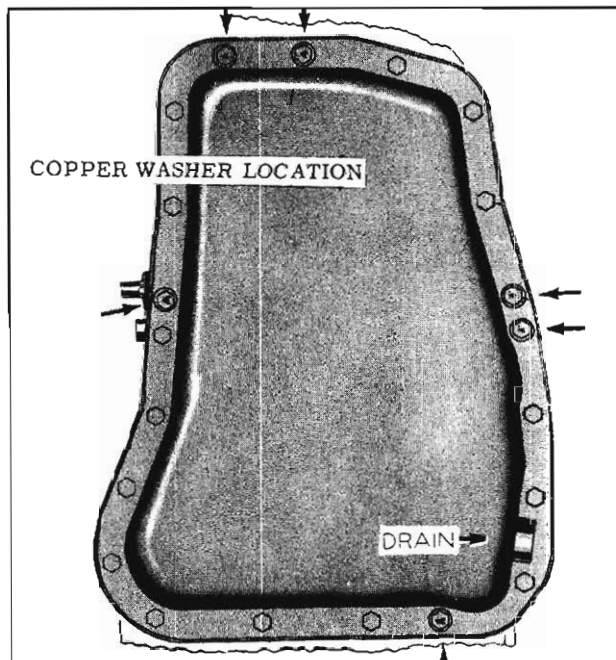

Fig. 6-123 Oil Pan Installation
25. Install oil pan. (Fig. 6-123) Torque 12 to 15 ft. lbs.